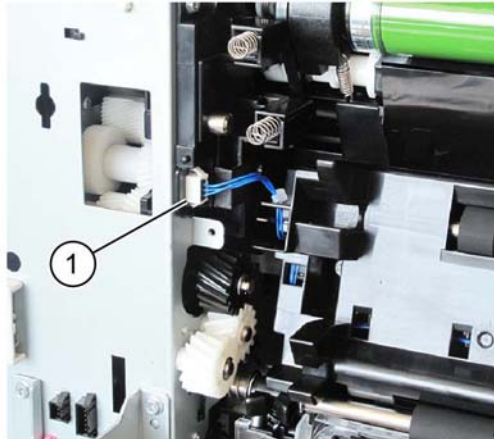

Figure 2 Connector
4. Disconnect the connector, Figure 2.